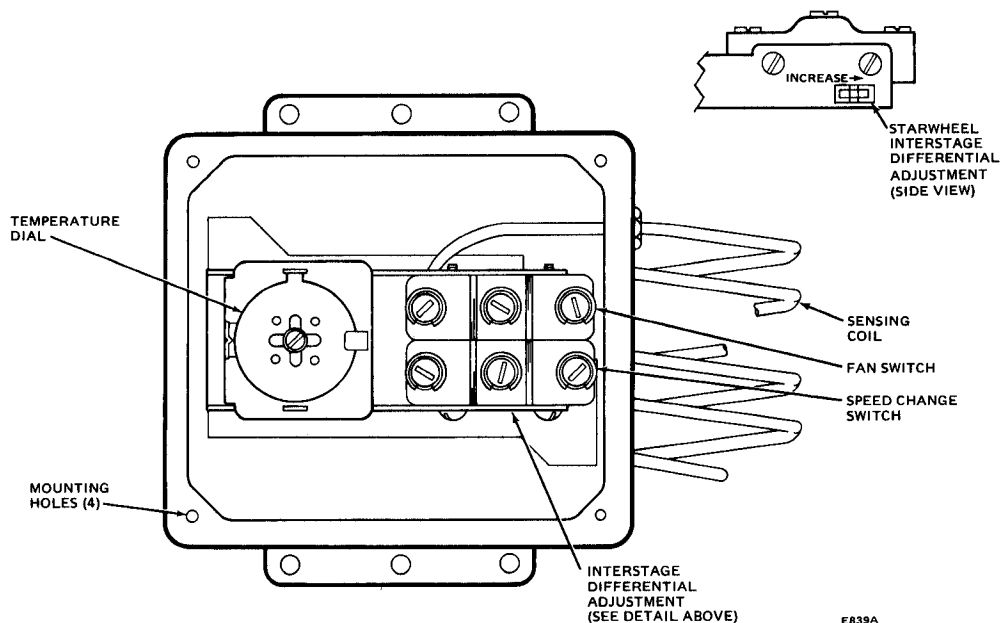

FIG. 9—T631G CONTROLLER FRONT VIEW.
2. Set controller dial at 100, then turn system power on (Fig. 9). Heating equipment should now be on (or cooling equipment should be off).